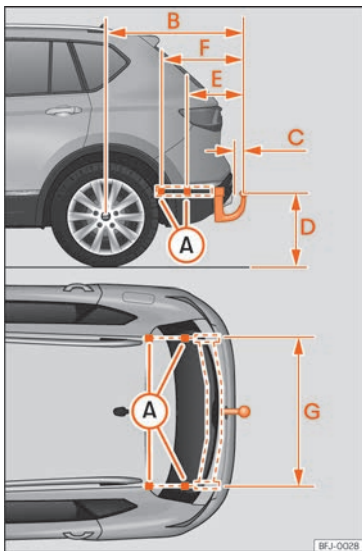

Fig. 220 Limits and attachment points for retrofitting a towing bracket.
The distance between the centre of the ball head and the road » **Fig. 220** (D) must never be less than indicated. This also applies when the vehicle is fully loaded, including the technically permissible maximum vertical load on the coupling device.
Distance specifications » » Fig. 220: